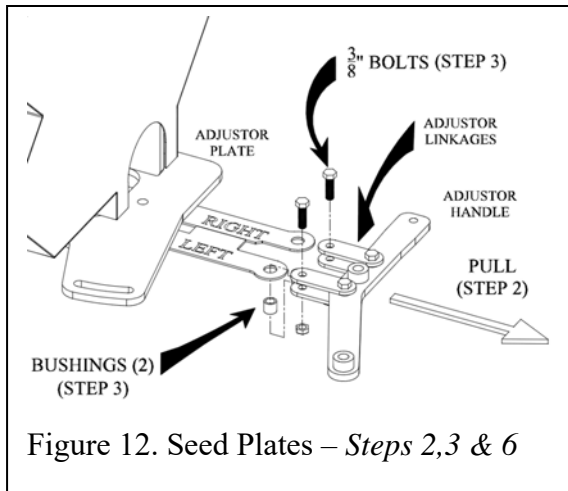

Figure 12. Seed Plates – Steps 2,3 & 6
2. Pull straight out on the adjuster handle and slide the seed plate assembly out of the seed box as shown in Figure 12.
seed plates to the adjuster linkages as shown in Figure 12.
- Reassemble the seed plate assembly; be sure the left and right plates are oriented as shown in Figure 12.